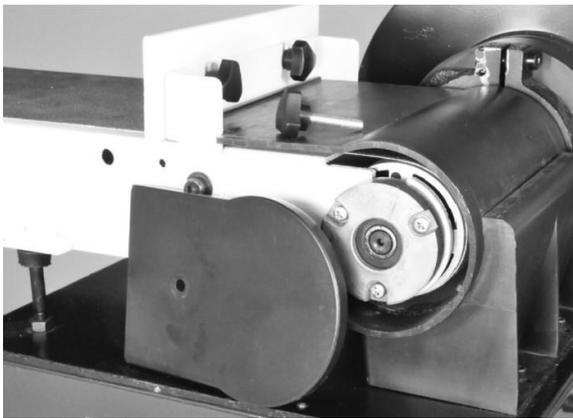

Figure 15
The tool is equipped with an approved 3-conductor cord rated at 300V and a 3-prong grounding type plug (See Figure 15) for your protection against shock hazards.
1. Remove the plastic side cover from the frame by unscrewing the knob. See Figure 15